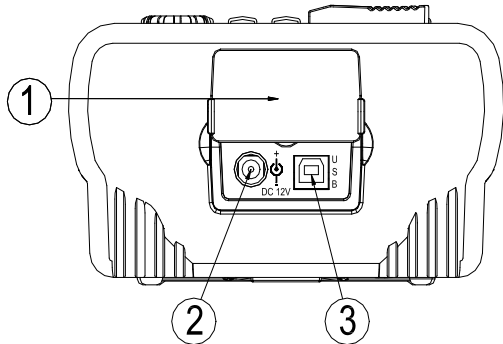

Figure 2
①	LCD display	②	Range Switch
③	PRESS TO TEST button	④	Back Light button
⑤	Maintenance / Clearing Data button	⑥	Function Selection / (AC/DC)Switch button
⑦	Leakage current / Upper(▲) button	⑧	Temperature / Lower(▼) button
⑨	SAVE / Enter button	⑩	LOGG / Right Shift (►) button
⑪	Communication Enabling / Left shift button (◄) button	⑫	EARTH: Earth Terminal
⑬	GUARD: Guard Terminal	⑭	LINE : High-voltage Terminal
⑮	Guard Cord (green)	⑯	High Voltage Cord (Red)
⑰	Guard Cord (BLACK) Special dual-plug Cord
4.2 Instrument side elevation (As shown in Figure 2)